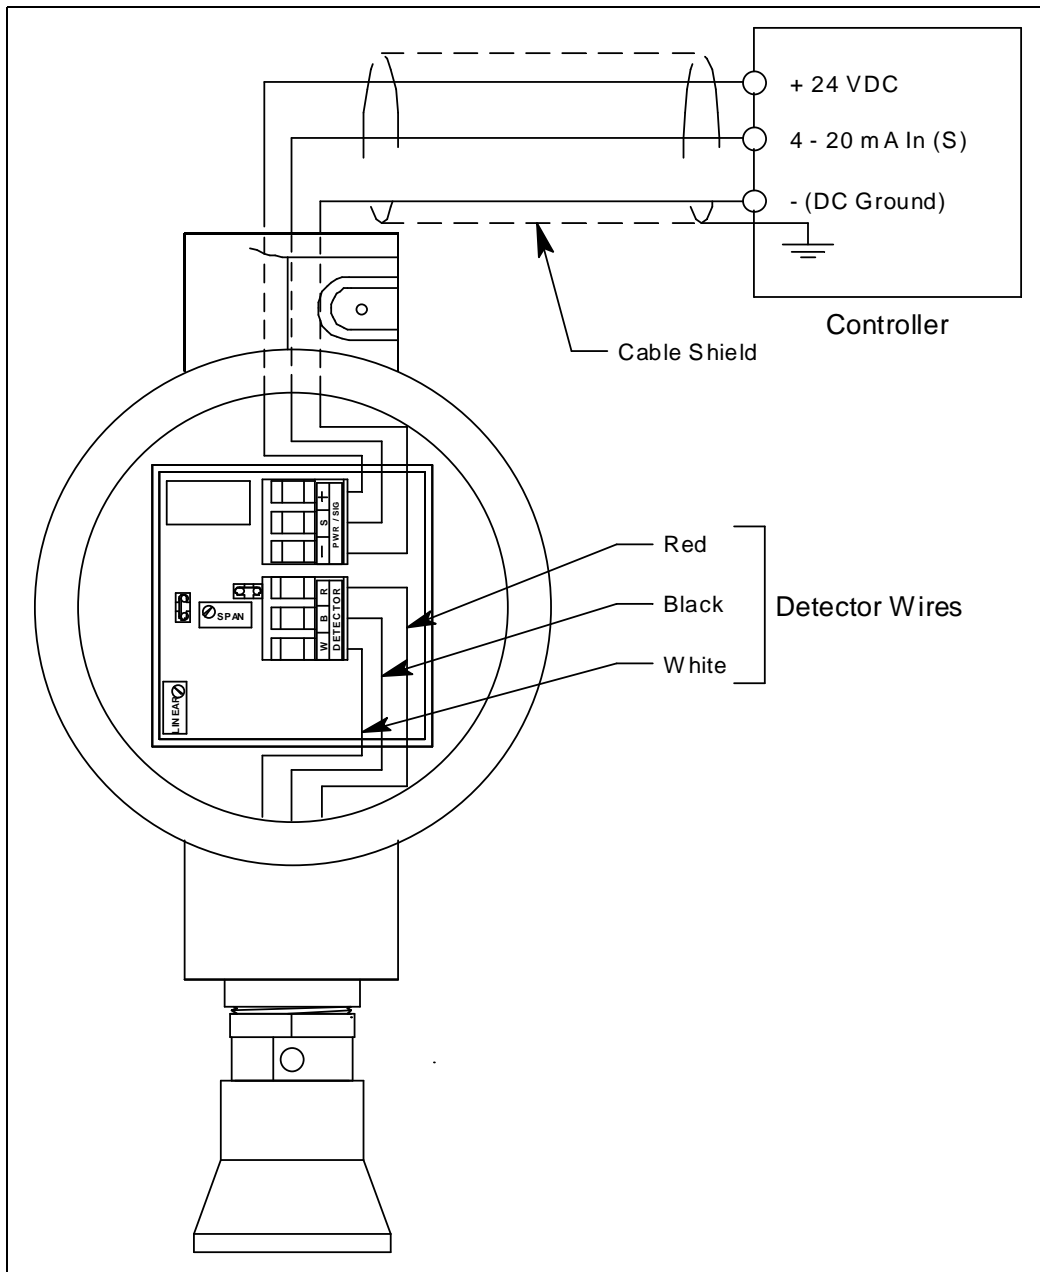

Figure 4: Wiring the PPM Hexane Transmitter to a Controller
4. The detector leads are factory wired. Verify that the detector leads are wired to the amplifier's detector terminal strip as shown in Figure 4.
7. Pull out the controller terminal strip, and connect the three wires to the terminal strip as follows (see Figure 4).
11. Connect the wires to the applicable detector/transmitter terminal strip at the controller as shown in Figure 4.
8. Connect the detector leads to the detector terminal strip as shown in Table 3 below and Figure 4 on page 11 of this manual.
7. Install the detector and controller terminal strips into their sockets on the new amplifier as shown in Figure 4 on page 11 of this manual. If controller leads or detector leads were removed during this procedure, refer to Tables 4 and 5 below.